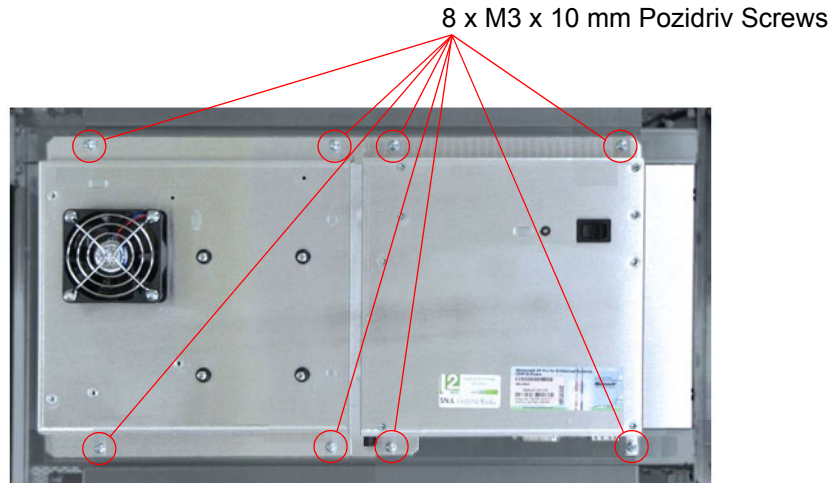

Figure 62 8 x Door PC Fixing Screws
- Support the Door PC and remove the 8 screws that fix the Door PC to the router door (see Figure 62). Keep the screws, the spade connector and plastic cable clip for when the new Door PC is fitted.